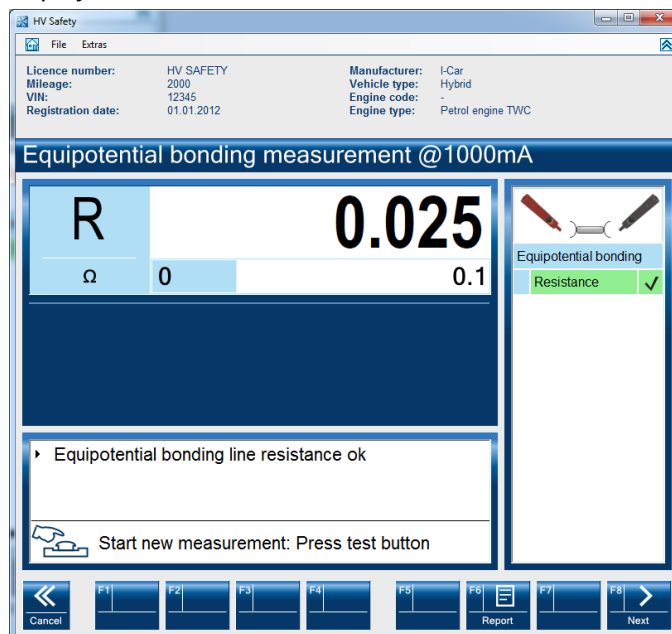

Fig. 3-5
7. The result of the measurement is displayed, see Fig. 3-5